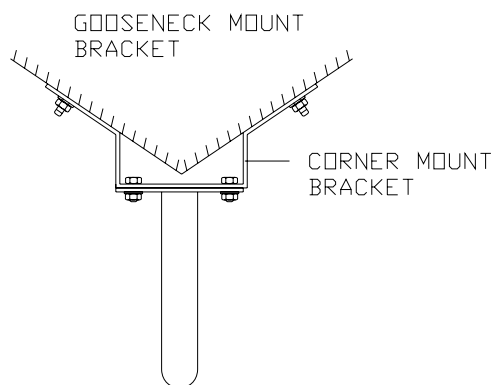

FIG.22
5. Screw the set anchor bolt of the bracket by nut on the wall. (FIG.22)